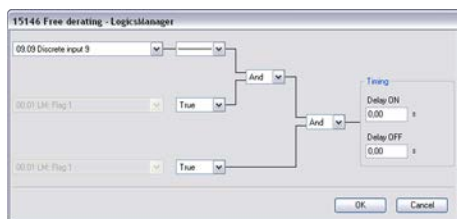

Fig. 254: LogicsManager function "Free derating"
3. ➤ Configure the LogicsManager function "Free derating" as shown in (Fig. 254) to enable derating of power if discrete input [DI 09] is energized.